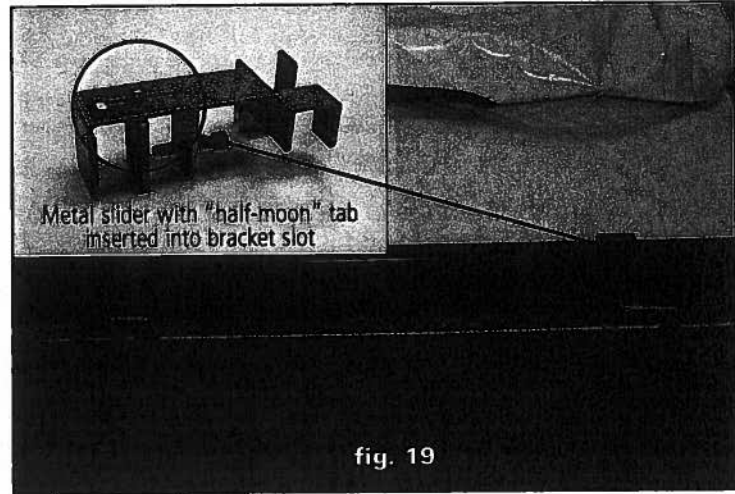

fig. 19
- Attach the mounting brackets (part E) on the Sliding Bar (part D) of the A-Frame and mount to head/footboard as shown (fig. 18). **Note:** If the rubber covered Metal Slider is not already attached to the bracket, attach it by placing the "half-moon" tab through the slot in the bracket. The rubber surface must face the bed frame (fig. 19).